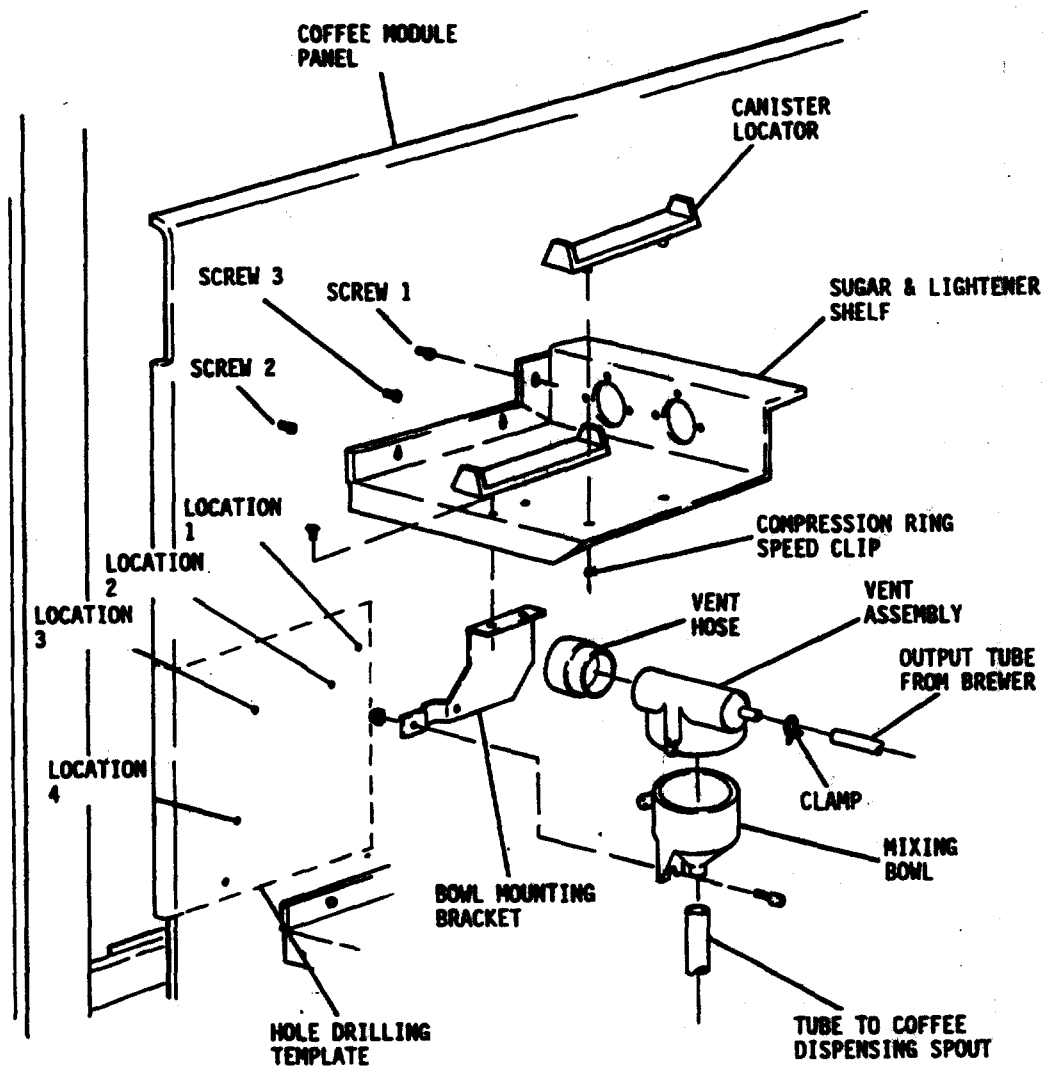

FIGURE 2. Assembly of New Sugar & Lightener Shelf
Refer to figure 2.
1. Tape the hole drilling template to the coffee module panel. Place it in the position shown. Refer to Figure 2.
11. Place the chocolate shelf over the two mounting screws and lower into position. Refer to Figures 2 and 3.